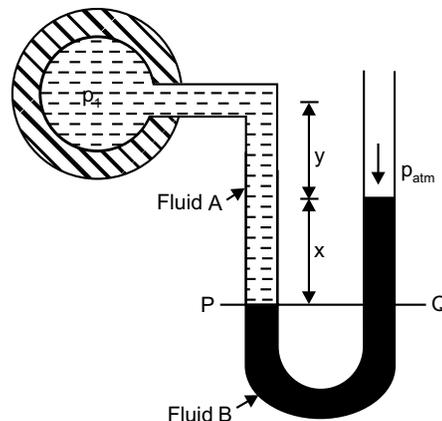

Fig. 2.7
- (b) **U-tube manometer:** A U-tube, as shown in figure 2.7, may be used to measure pressure in a conduit or container having a fluid of mass density  $\rho_A$ . The manometric tube should contain a liquid having mass density  $\rho_B$ , such that  $\rho_B > \rho_A$ . For water and alcohol, common manometric fluid is mercury, while for gas it may be water.